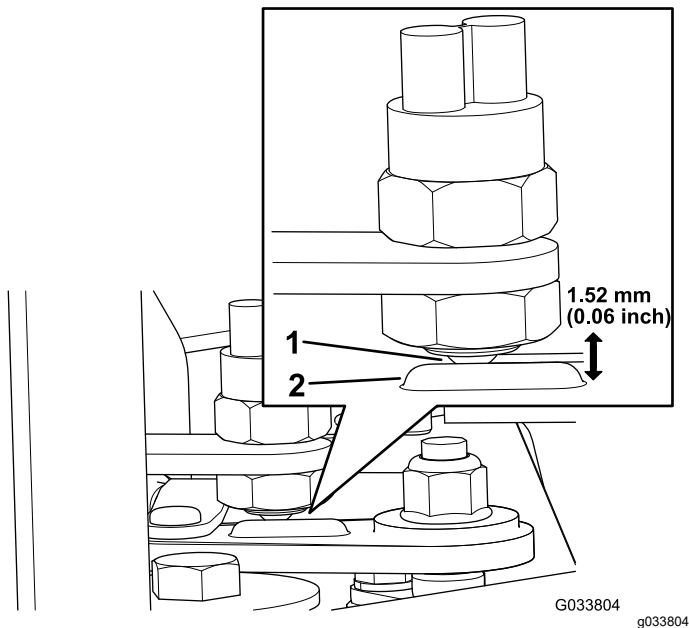

Figure 5
2. Ensure that the ball switch is in front of the bump on the shift lever (Figure 5).
3. Adjust the depth of the ball switch to 1.52 mm (0.06 inch) clearance between the bump of the shift lever and the face of the ball switch (Figure 5).